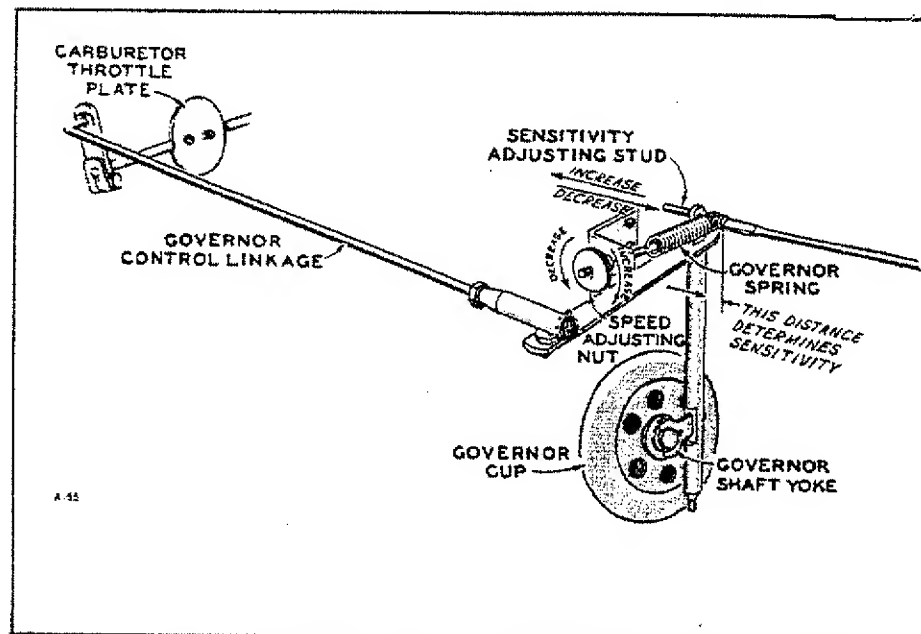

Fig. 20 Governor Adjustments
- With the plant operating at no load, turn the speed adjusting nut, Fig. 20, to obtain a frequency reading of between 60 and 63 cycles for a 60 cycle plant (50 to 53 cycles for a 50 cycle plant). The voltage should be within the limits shown in the table III according to the rated voltage shown on the plant nameplate.
2. Connect a full electrical load to the generator. The governor should act smoothly and quickly to keep the voltage and frequency within the limits shown in the table. However, there should be not more than a spread of 3 cycles between the no load frequency and the full load frequency. For example, if the frequency was 62 cycles at no load, then the full load frequency should be not less than 59 cycles. If the cycle spread is more than 3 cycles, turn the sensitivity adjustment screw, Fig. 20, in (clockwise) a half turn. This will, in turn, necessitate a slight compensating speed nut adjustment. Repeat the process until the cycle spread is within 3 cycles, and voltage is within the limits shown in the table.